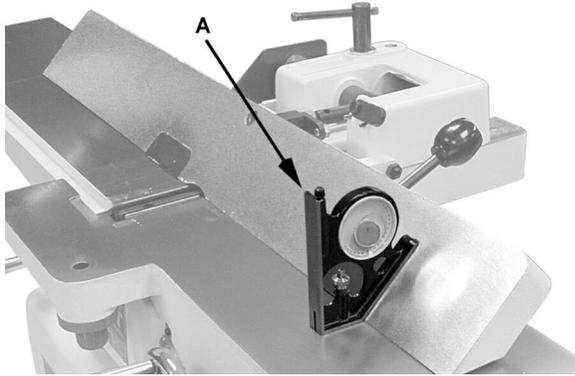

Figure 8-6
1. Loosen the lock handle (A). Move the stop plate (D) out of the way and position the fence at the 135° angle. Make sure the fence sits against the stop bolt. (E).
2. Tighten the lock handle (A).
3. Place an angle measuring device on the table and against the fence to confirm a 135° setting (A, Fig. 8-6).
- To adjust, loosen the lock nut (F), turn the stop bolt (E) until a 135° angle is obtained.
- Tighten the lock nut (F).